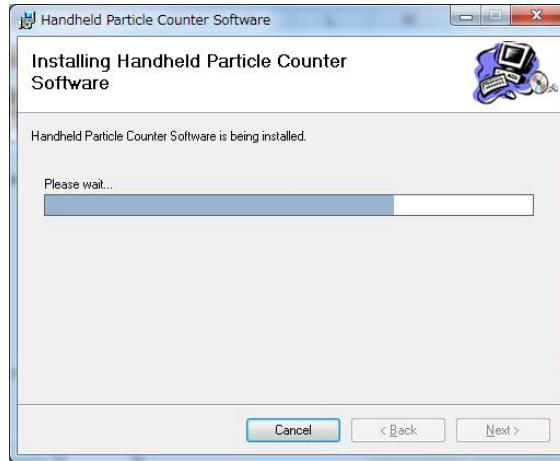

Figure 2-4
- 4) Click the Next button to display the dialog box as shown in Figure 2-4.